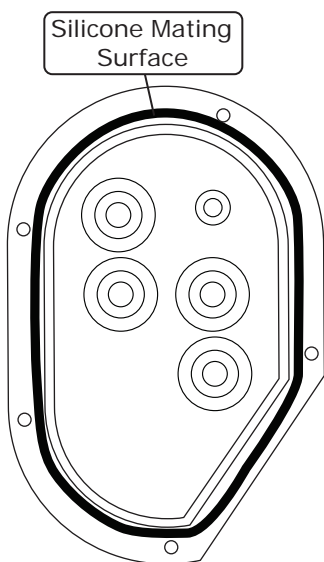

Figure 1
1. Apply a bead of silicone around the mating surface of the kick panel cover (See Figure 1, below).